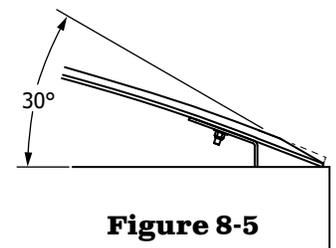

Figure 8-5
- Figure 8-5.** Grind end of trough at 30° angle, free from burrs, to reduce wear on tarp.